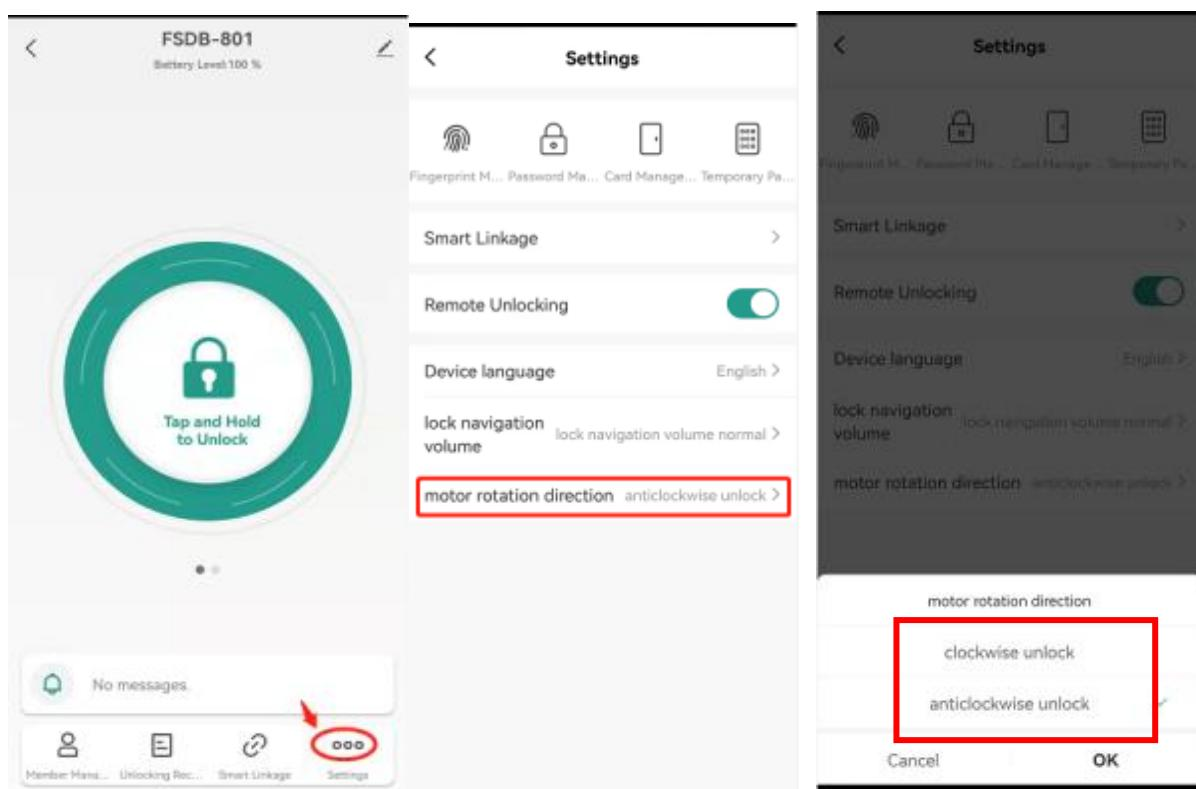

Figure C-7
g. After the installation, connect the deadbolt to Smartlife APP, choose the correct setting for door direction(setting>motor rotation direction>clockwise unlock/counterclockwise unlock) (see Figure C-7)